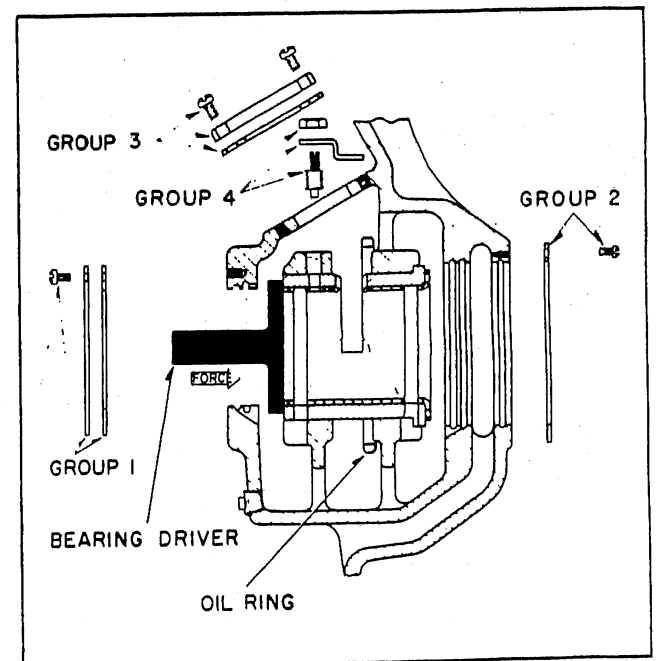

Figure 6 Detail of Solid Sleeve Bearing
5. Remove outer and inner bearing caps. (Group 1 and 2 of Fig. 6).
7. Tap the bearing out toward the inside by placing a bearing driver or rod against bearing shoulder. (See Fig. 6).